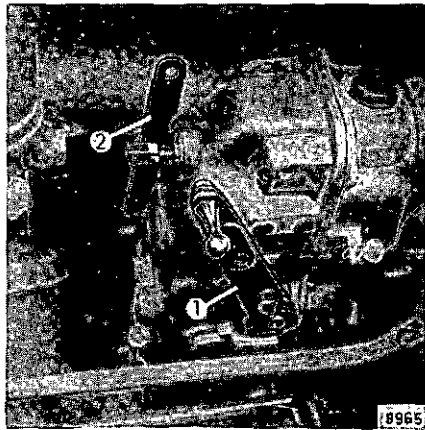

Fig. 5
1. Set speed control lever 1 (Fig. 5) to low idling.